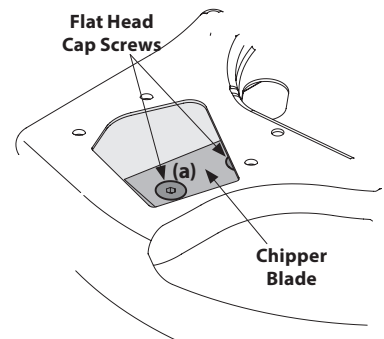

Figure 25
- Using a 3/16" allen wrench, remove the flat head cap screws (a) that hold the chipper blade to the impeller. These screws are accessible through the opening created when the chipper chute was removed earlier. See Figure 25.